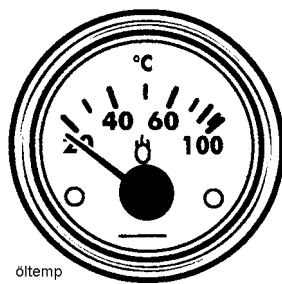

Fig. 99
- Check the hydraulic oil temperature (1) (**Fig. 99**) on the thermometer.